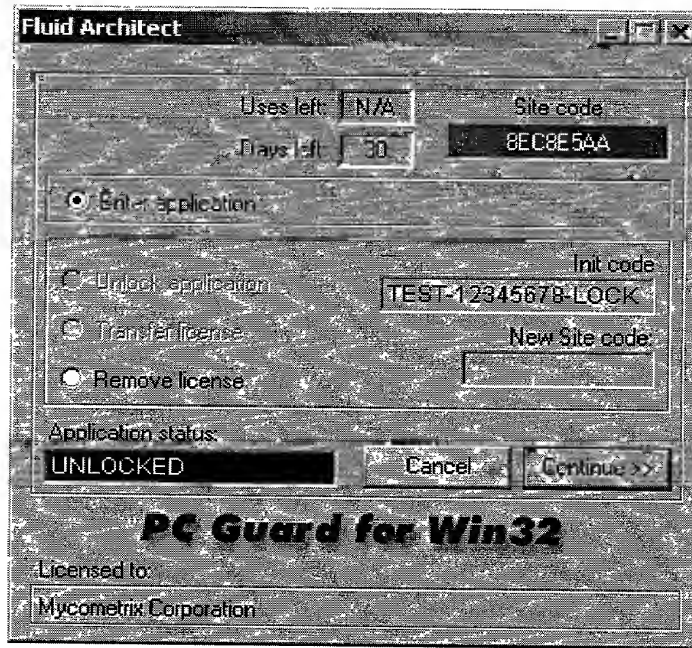

Figure 2 – Dialog to Enter the Init Code
2. Enter the 16 digit alphanumeric string EXACTLY as it is shown in the email including the "-" character which separates the strings. See Figure 2. In this case the Init code of TEST-123455678-LOCK was entered.